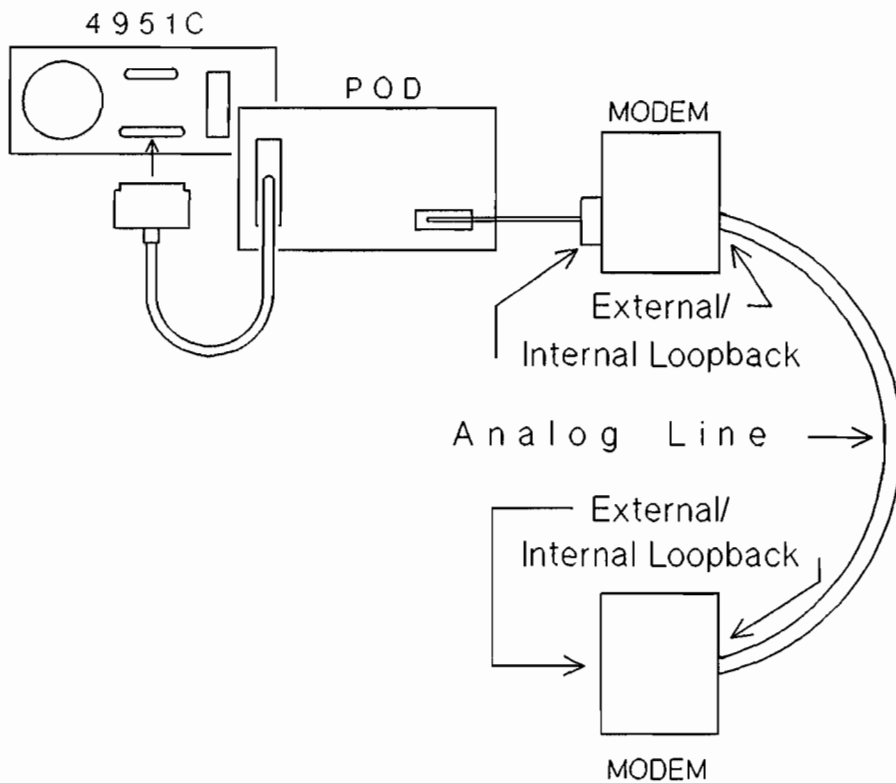

Figure 2-4. Loopback BERT Hookup
- b. Loopback. Substitute an HP 4951C for only one DTE and "loopback" the modem or terminal at the other end of the line. (Figure 2-4).